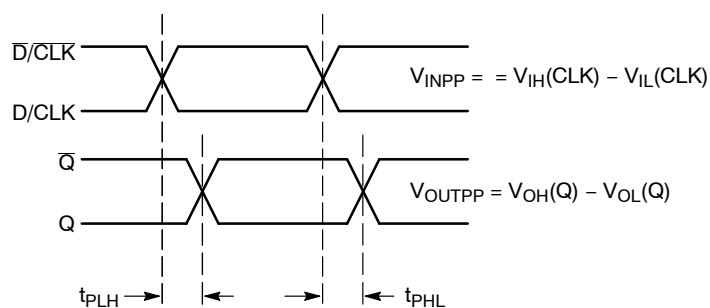

Figure 6. AC Reference Measurement
23. See Figure 6. $t_{SKEW} = |t_{PLH} - t_{PHL}|$ for a nominal 50% Differential Clock Input Waveform.
30. See Figure 6. $t_{SKEW} = |t_{PLH} - t_{PHL}|$ for a nominal 50% Differential Clock Input Waveform.